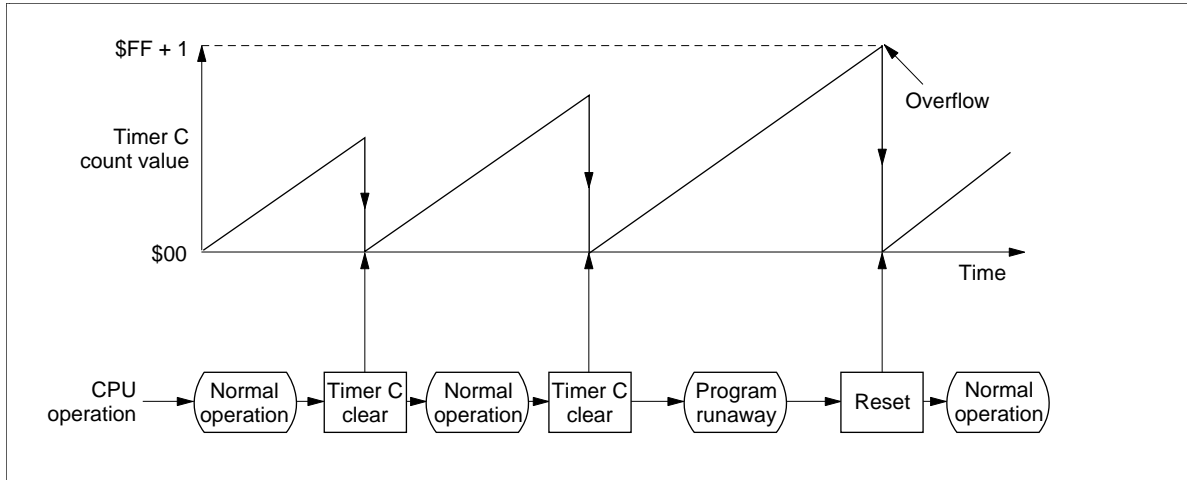

Figure 34 Watchdog Timer Operation Flowchart
- Watchdog timer operation: Timer C can be used as a watchdog timer for programs that may run out of control. A watchdog timer is enabled when the setting on the watchdog on flag (WDON: \$020, bit 1) is 1. When timer C overflows, an MCU reset occurs. This usually controls programs running out of control by initializing timer C through software before timer C counts up to \$FF (figure 34).